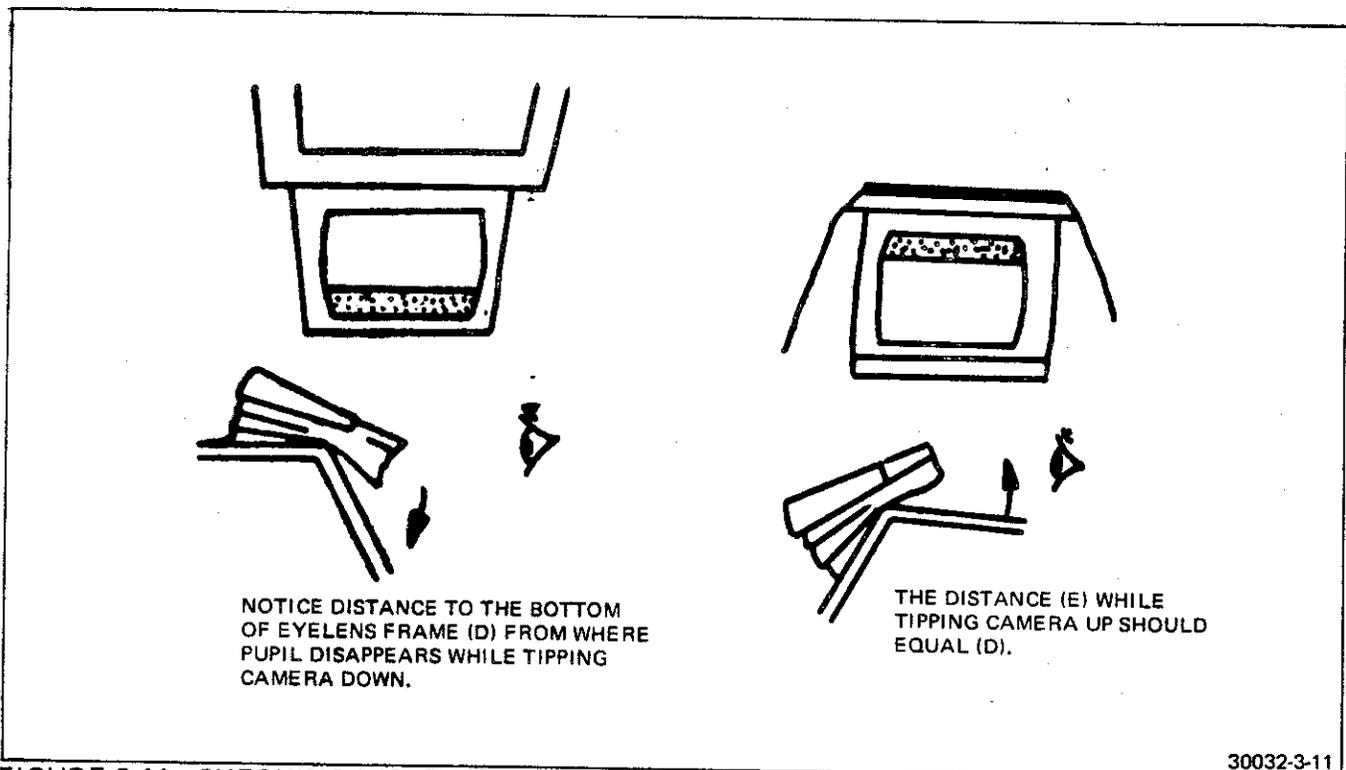

FIGURE 3-11 CHECKING DISAPPEARANCE OF EXIT PUPIL
b. Rotate the camera at arm's length so the pupil gets higher and then lower. See Figure 3-11. The pupil should disappear in the eyelens at